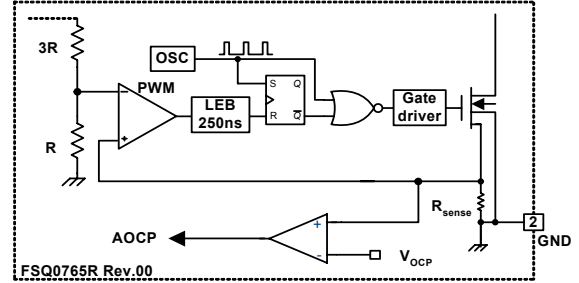

Figure 31. Abnormal Over-Current Protection
**4.2 Abnormal Over-Current Protection (AOCP):** When the secondary rectifier diodes or the transformer pins are shorted, a steep current with extremely high di/dt can flow through the SenseFET during the LEB time. Even though the FSQ-series has overload protection, it is not enough to protect the FSQ-series in that abnormal case, since severe current stress is imposed on the SenseFET until OLP triggers. The FSQ-series has an internal AOCP circuit, shown in Figure 31. When the gate turn-on signal is applied to the power SenseFET, the AOCP block is enabled and monitors the current through the sensing resistor. The voltage across the resistor is compared with a preset AOCP level. If the sensing resistor voltage is greater than the AOCP level, the set signal is applied to the latch, resulting in the shutdown of the SMPS.